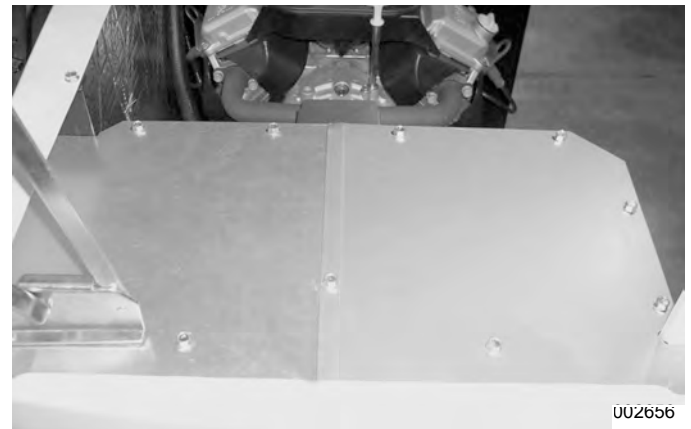

Figure 5-39.
1. **Remove Top Exhaust Enclosure Covers:** See Figure 5-39. Use a 10 mm socket to remove the nine bolts from the exhaust top covers. Remove covers.